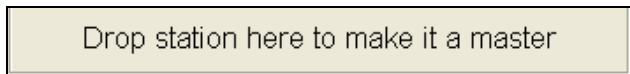

Figure 16.4.47D
- To return a Slave station back to a Master just click on the slave and drag it to the bottom of the "Sensor Assignment" window. Release the mouse button when your cursor is on top of **Drop station here to make it a master** button (Figure 16.4.47D).